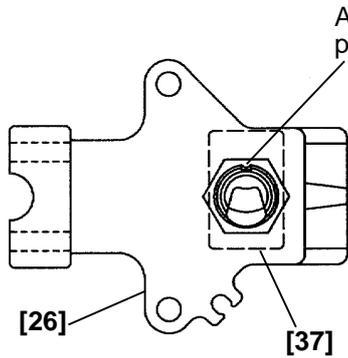
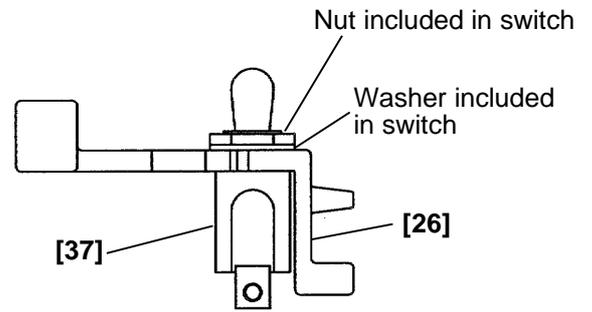

Fig. 9
Fig. 10
(2) Take care not to use any Ball Bearings [1], [41] of the Armature [44] other than those specified, because the revolution of the armature may vary depending on the quality of these parts.
(3) Orientation of the Switch [37] (Fig. 9, Fig. 10)